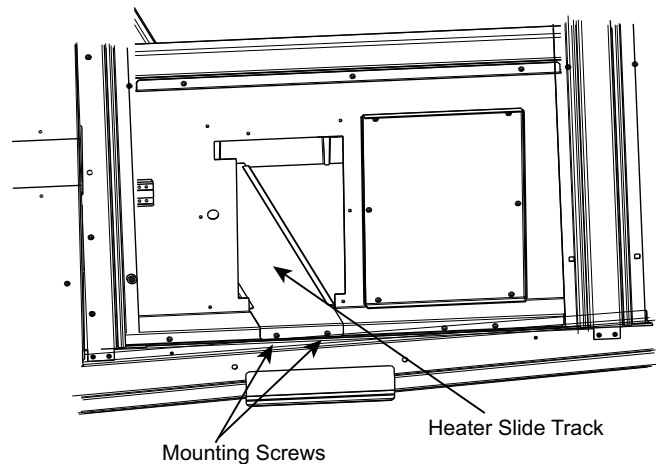

Fig. 37 — Heater Slide Track Installation
2. Install heater slide track(s) from the heater kit through the bottom of the heater mounting hole(s) and fasten each with the two screws provided. (See Fig. 37 and 38.)